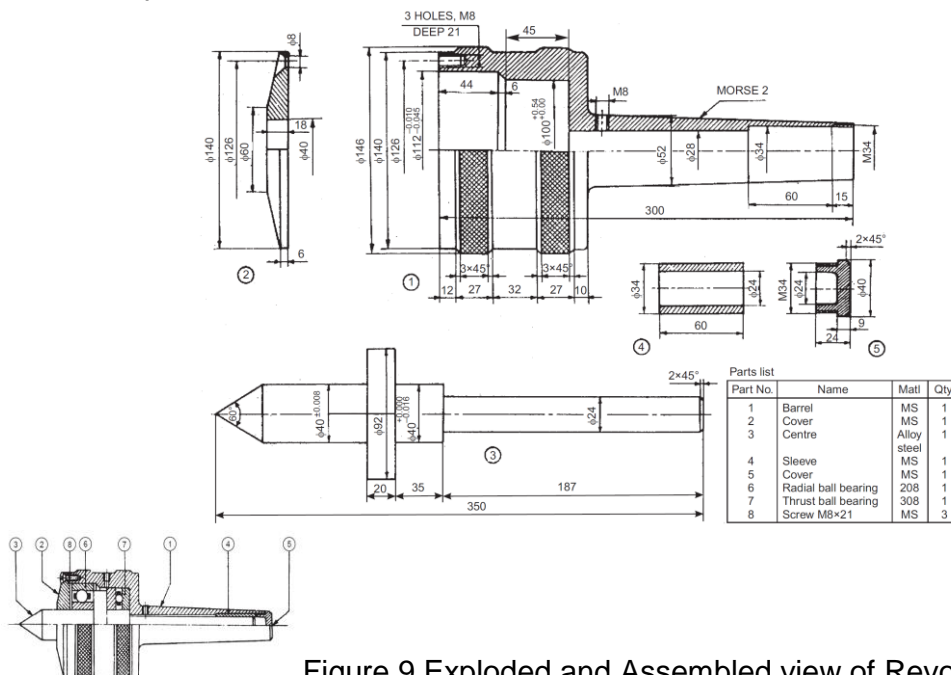

Figure 9 Exploded and Assembled view of Revolving Centre
4. Propose a suitable manual assembly sequence and resource requirements for the following *Revolving Centre* as in figure 9. Assume the expected production rate is 50 assemblies per day.